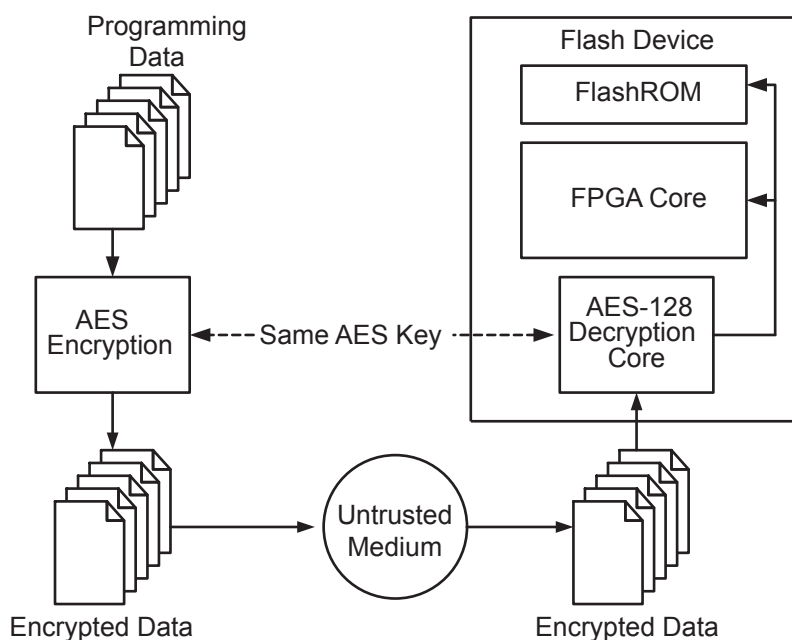

Figure 5-5 • Programming FlashROM Using AES
Low power flash devices with AES-based security allow for secure remote field updates over public networks such as the Internet, and ensure that valuable intellectual property (IP) remains out of the hands of IP thieves. Figure 5-5 shows this flow diagram.